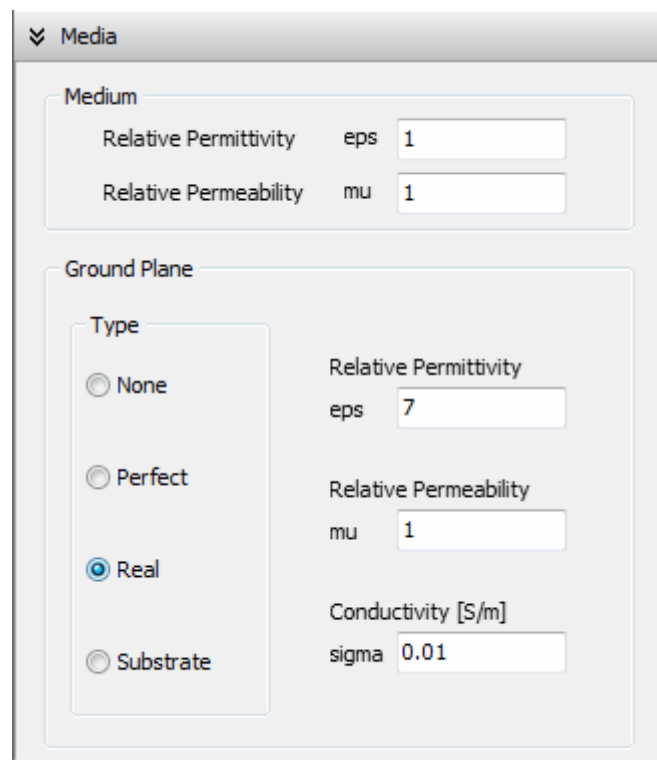

Fig. 10.2: Real option in the Ground Plane box of the Media panel.
3. Check the **Real** option in the Ground Plane box, Fig. 10.2.